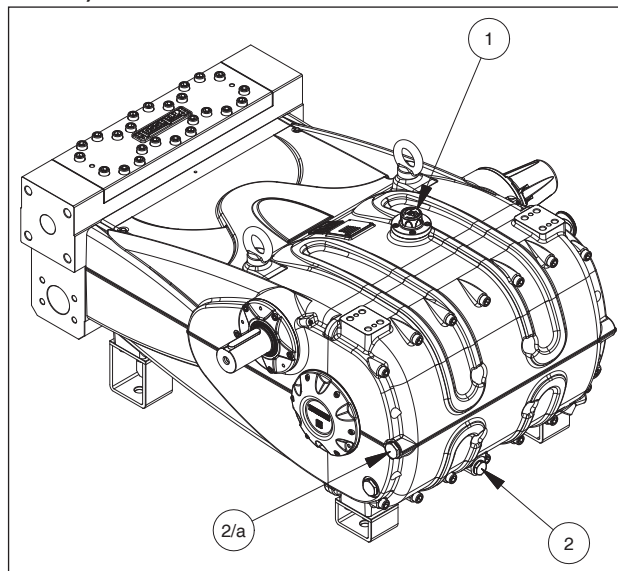

Fig. 4
Check the oil level using the dipstick ①, Fig. 4.
If necessary, top up via the oil cap ① Fig. 4.
The correct checking of the oil level is made with the pump not running, at room temperature. The oil change must be made with the pump at working temperature, removing the plug pos. ②, Fig. 4. (Use the plug pos. 2/a for the vertical version.)